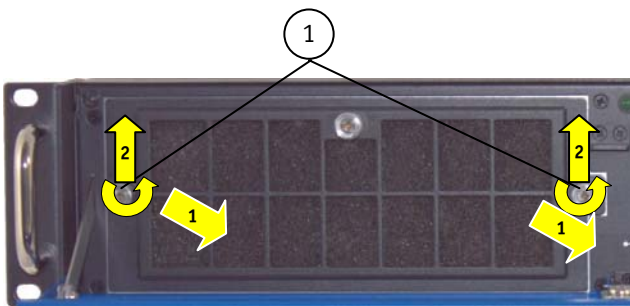
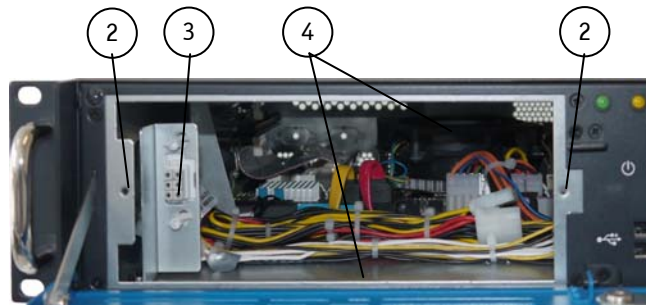

Fig. 34: Detail: removing the fan slide-in module
Fig. 35: Detail: Fan compartment (without fan slide-in module)
2. Loosen the two knurled screws of the fan slide-in module (Fig. 34, pos. 1)
3. Pull-out the fan slide-in module to disconnect it from the internal fan control socket (Fig. 35, pos. 3).
4. Lift the slide-in module up in the arrow direction to remove it from the fan compartment (see Fig. 35).
Legend for Fig. 34 and Fig. 35:
7. Slide the fan slide-in module with mounted filter mat holder (Fig. 38) into the fan compartment (Fig. 35, pos. 4).
8. Push the fan slide-in module into the fan compartment until the fan control connector (Fig. 37, pos. 2) is firmly inserted into the socket (Fig. 35, pos. 3).
9. Fasten the knurled screws of the fan slide-in module (Fig. 34, pos. 1)